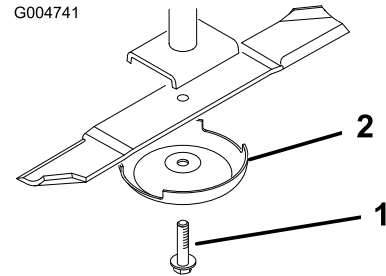

Figure 112
2. Grasp the end of the blade using a rag or thickly padded glove. Remove the blade bolt, anti-scalp cup, and blade from the spindle shaft (Figure 112).